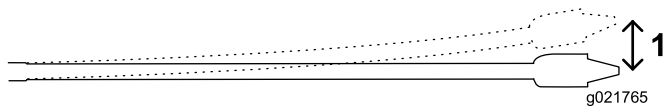

Figure 51
The 3 m (10 ft) pipes used on this machine can flex to an 8% pitch over the length of the pipe; this equates to a bend of no more than 20 cm (8 inches) off of a straight path (Figure 51).
- You insert the first 3 m (10 ft) of drill bit/pipe into the ground with no steering. The end of the drill bit will be 76 cm (30 inches) deep (Figure 51).